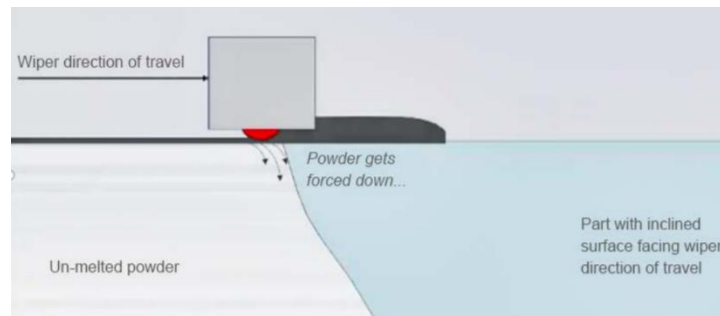

Figure 9: Schematic showing the interaction of the recoater blade and the front edge of the part (Figure courtesy of Renishaw)
3. **Part orientation.** During the powder recoating process, the stiff blade creates a pressure wave across the build plate, packing and forcing powder to the front edge of the solidified part underneath (see Figure 9). Continuous force of the blade and pressure of the powder on the solidified part can lift the front edge of the part upwards, especially for parts that have thin walls or small features. This part will eventually collide with the recoater, which may lead to a failed build. To minimize this effect, the part(s) and supports should be oriented away from the recoater direction so that the recoater’s first